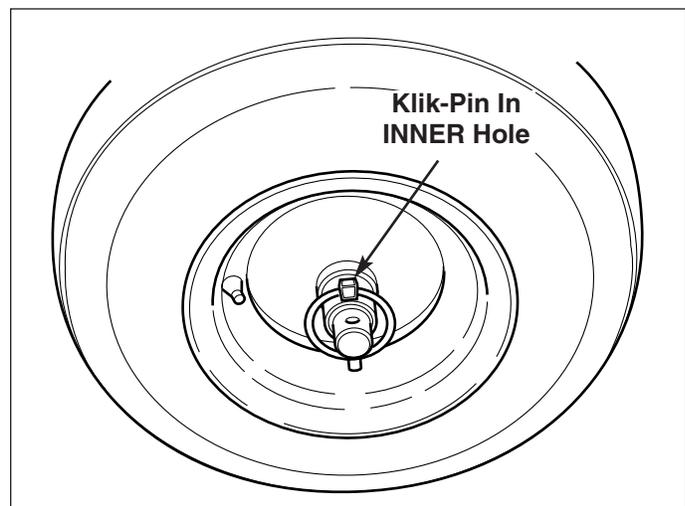

Figure 12. Traction Drive Lock - Engaged
3. To **ENGAGE** the traction drive lock, insert the pin through the hub and axle (See Figure 12). If the hole in the hub is not aligned with the inner hole in the axle, push the snowthrower until the holes align and install the Traction Lock Pin.